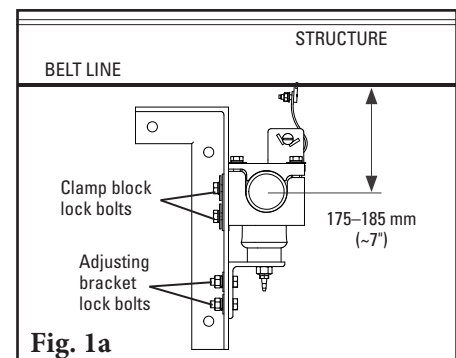

Fig. 1a
For structure mounting: In most applications the standard mounting brackets will have adequate room to fit on the structure with no cutting. Clamp the mounting bracket into position (use 150 mm (6") clamps). Move the clamp block to align the centre of the block with a point 175–185 mm (~7") below the belt (Fig. 1a). To move the clamp blocks, if necessary, loosen the clamp block lock bolts and the adjusting bracket lock bolt and move the clamp block to a position where the centre of the hole is 175–185 mm (~7") below the bottom of the belt. The bracket can now be bolted or welded in place. Locate and install bracket on the opposite side of belt in alignment with the first bracket.
- a. Loosen the top adjusting bolt jam nuts 25 mm (1") on the top of the adjusting brackets (Fig. 1a).